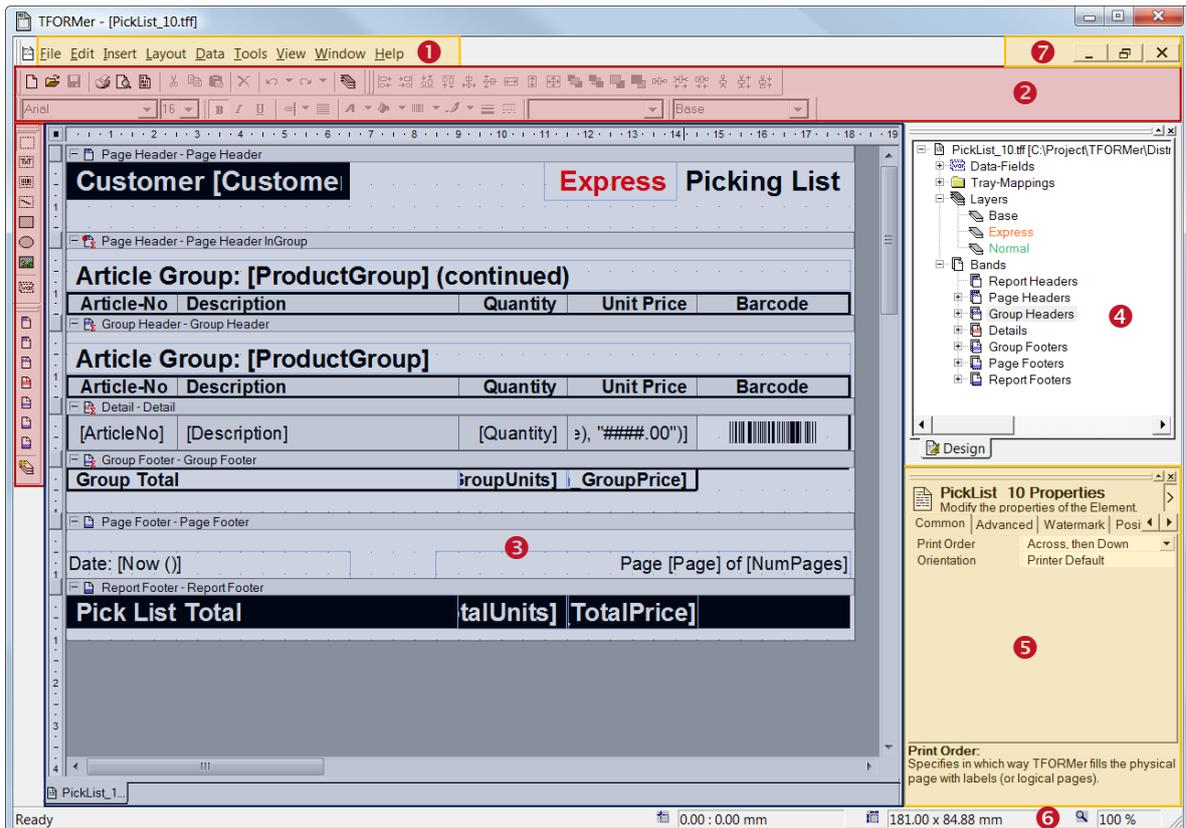

Figure 2: User Interface
Properties	Show or hide the properties window (see Figure 2, ⑤).
Design-Tree	Show or hide the tree view window (see Figure 2, ④).